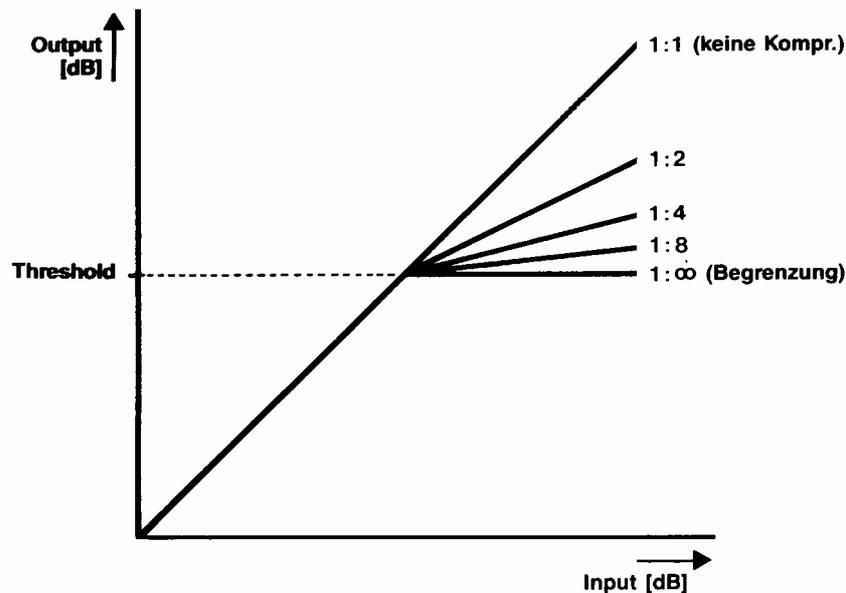

Fig. 15 Illustration to help explain the term compression ratio.
- **Compression ratio:** Compressors limit the audio signal amplitude whenever it surpasses a certain preset threshold level. The characteristic curve's slope equals 1 below this threshold, meaning that the output amplitude is the same as the input amplitude. At the threshold point the curve has a knee, beyond which the slope decreases with increasing compression ratio. Here, the output grows slower than the input (see **fig. 15**). The compression ratio is the slope of the curve above the compressor's threshold. Stand alone compressor units feature an adjustable compression ratio, as opposed to a limiter, which usually shows a fixed compression ratio of 1:∞ (i.e. a slope of 0: the output amplitude is constant over varying input levels).